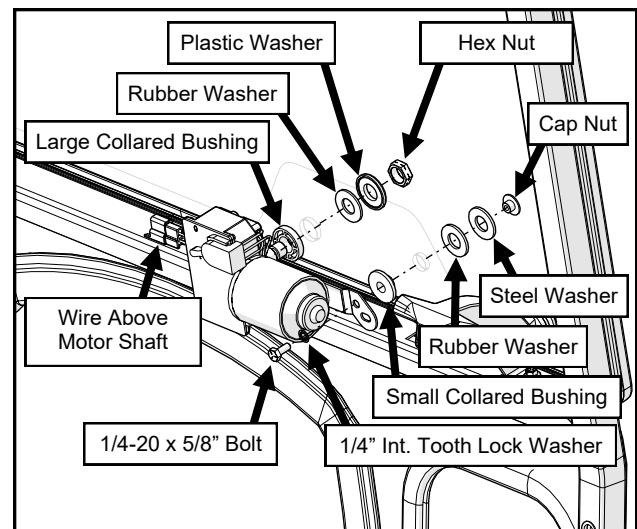

Fig. 12.1 (Windshield Wiper Motor)
12.1 Mount the wiper motor to the windshield. See Figure 12.1. Make sure the wires are above the wiper motor shaft to prevent pinching the wire when the windshield is opened and closed.